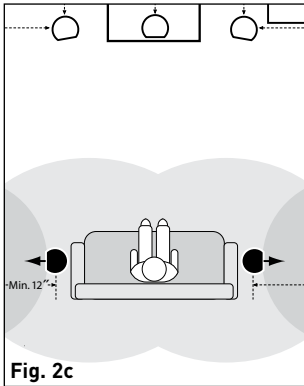

Fig. 2c
5.1 Surround Placement (Fig. 2c)